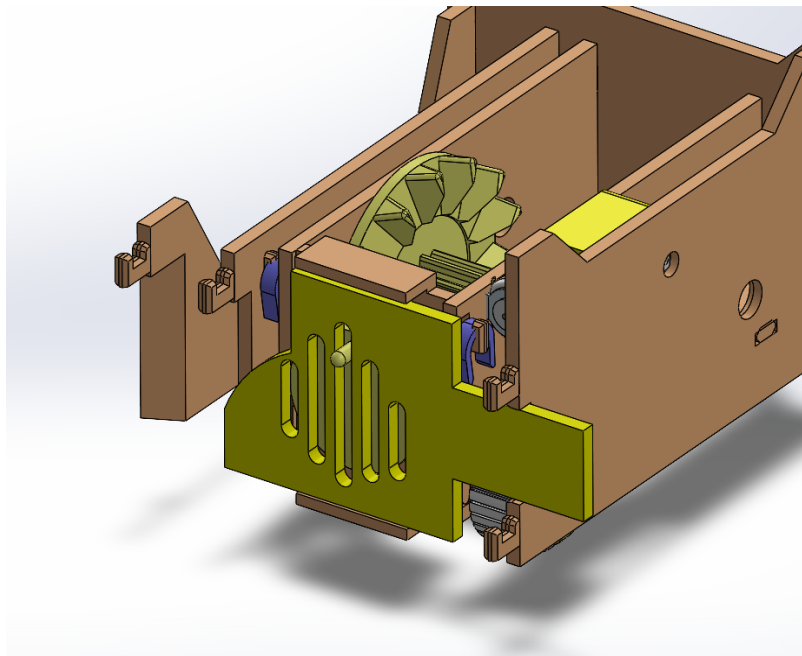

FIGURE 13
STEP 10: In this step we take the part numbered 3, it is the moving door that pushes the dominos out, it has vertical lines in which case, our thin finger goes through, the longest stripe of these, as seen in figure 13.